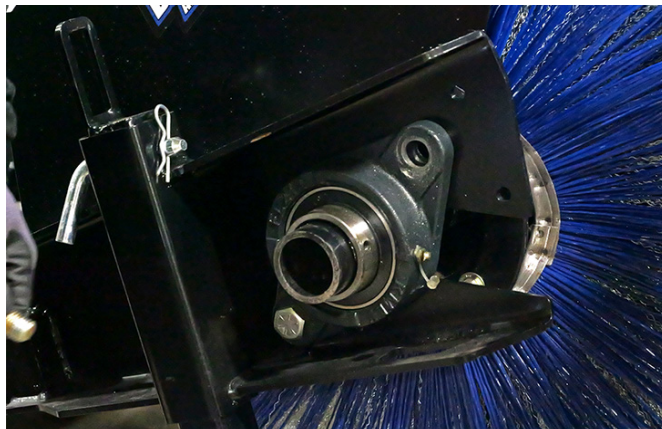

Figure 1
6. Remove the bearing hardware and the bearing [Figure 1].
6. Remove the bearing hardware and the bearing ["Figure 1" on page 22].